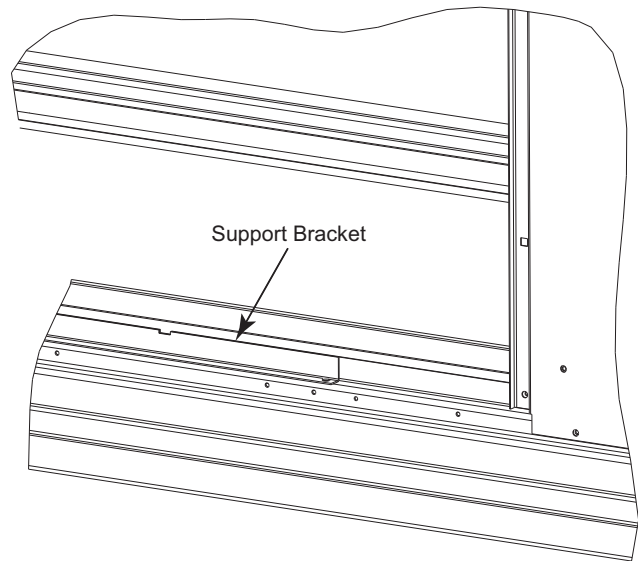

Fig. 10 — Install Support Bracket to Base Rail for Vertical Return Air Applications
2. Install support bracket (50HE500728) to holes in the base rail, as shown in Fig. 10, using four No. 10 x 5/8 in. serrated head screws (AL48AM217).